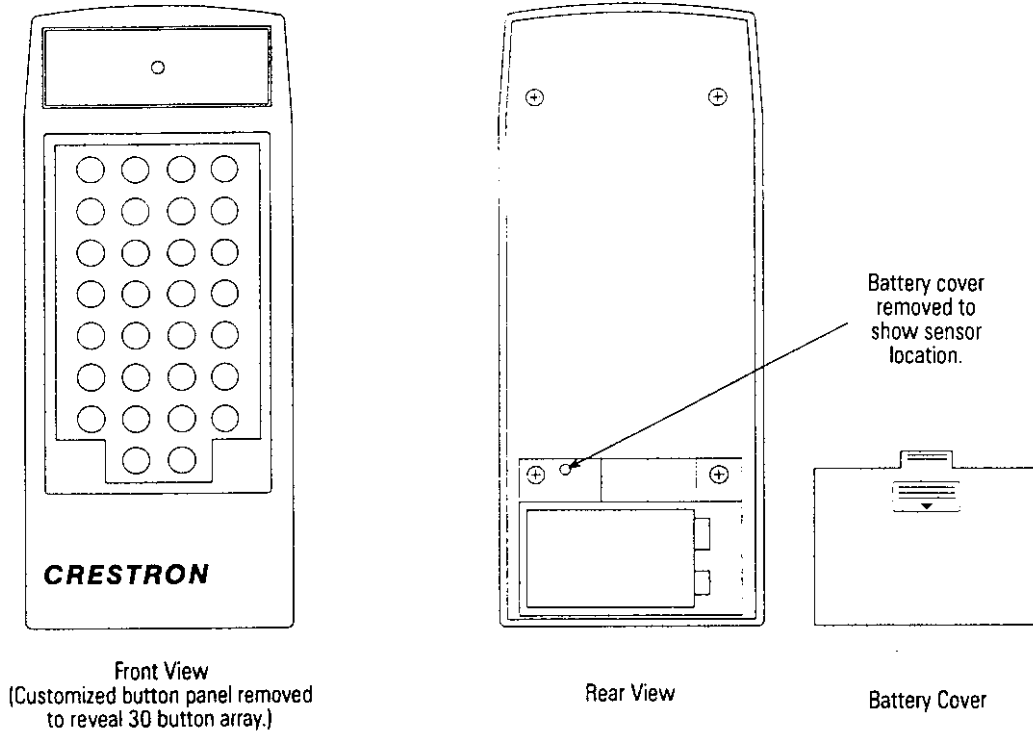

Figure 2. Physical Views of CNRFHT-15A/30A and CNIRHT-15A/30A
CNRFHT-15A/30A and CNIRHT-15A/30A electronic hardware is housed in a slim, high-impact molded ABS black plastic enclosure (refer to figure 2). A 30-button array on the printed circuit board is covered by a customized button panel. All button panels include custom engraving, colored button caps, choice of button configurations, and panel finishes. Small and large button caps are available. A small button cap covers one button. A large button cap covers two buttons. Refer to the latest version of the CRESNET II Engraving Worksheet for the hand-held transmitters (Doc. 5344) to design a unique button panel. Omission of unused buttons is standard. A red Transmit LED is located above the button panel cover.
8. Remove the battery cover to expose the battery compartment. Refer to figure 2.